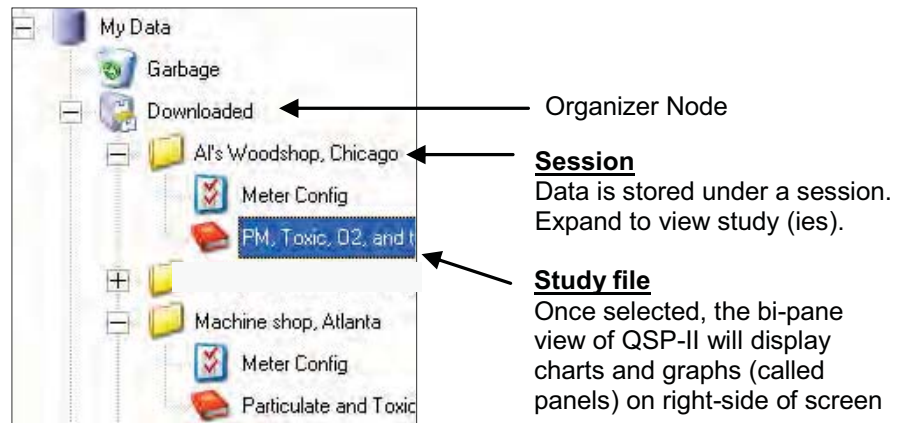

Figure 6-20: Downloaded studies
1. Ensure the appropriate study is selected. (See Figure 6-20 for an example).